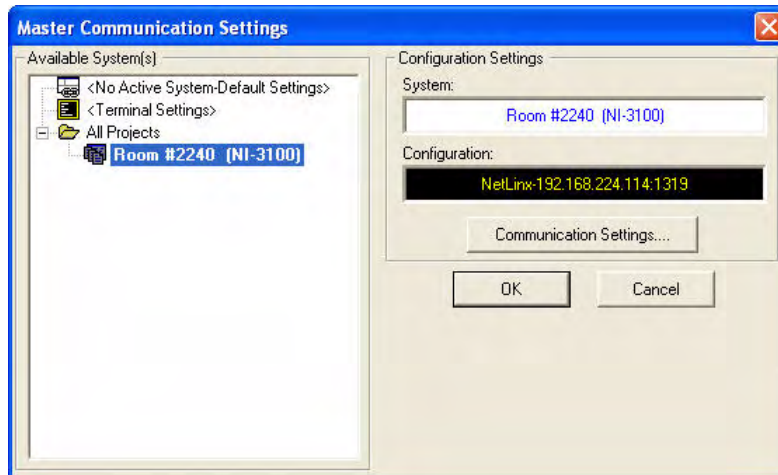

FIG. 38 NetLinx Studio - Master Communication Settings dialog
- a. In NetLinx Studio, select **Settings > Master Communication Settings** to open the *Master Communication Settings* dialog (FIG. 38):